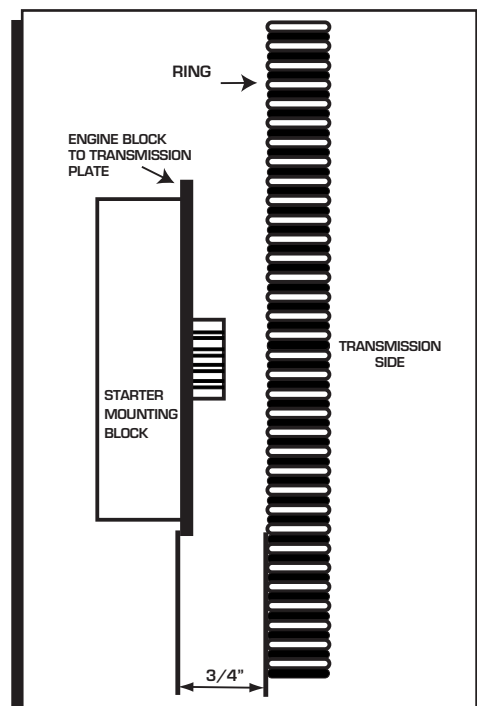

Figure 2 Checking Pinion Clearance.
2. Before mounting the starter, measure the distance from the front of the ring gear (engine side) to the starter mounting surface. It should be $\frac{3}{4}$ " (Figure 2).